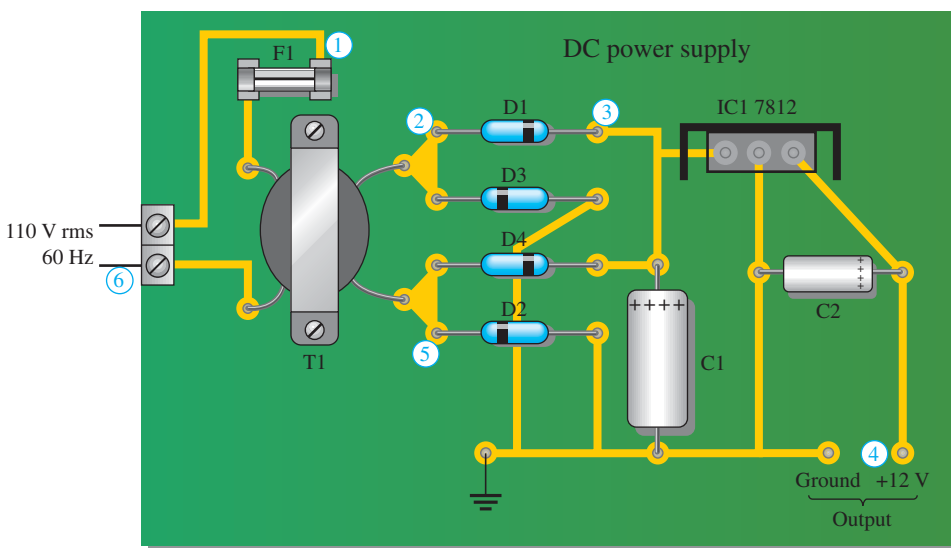

FIGURE 2–86
- 31. Draw the schematic for the circuit board in Figure 2–87 and determine what the correct output voltages should be.
- 32. The ac input of the circuit board in Figure 2–87 is connected to the secondary of a transformer with a turns ratio of 1 that is operating from the 110 V ac source. When you measure the output voltages, both are zero. What do you think has failed, and what is the reason for this failure?